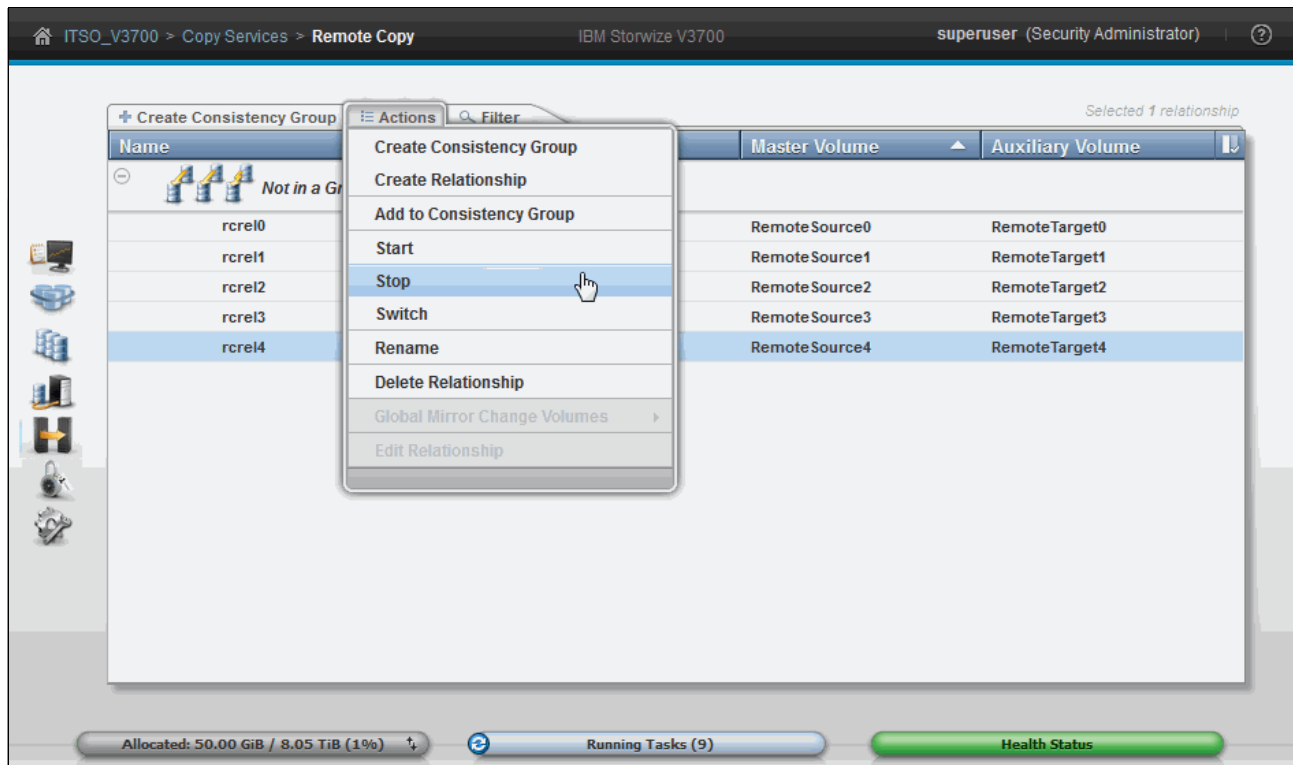

Figure 10-109 Stop Remote Copy relationship
1. Select the relationship and click **Stop** from the **Actions** menu, as shown in Figure 10-109.